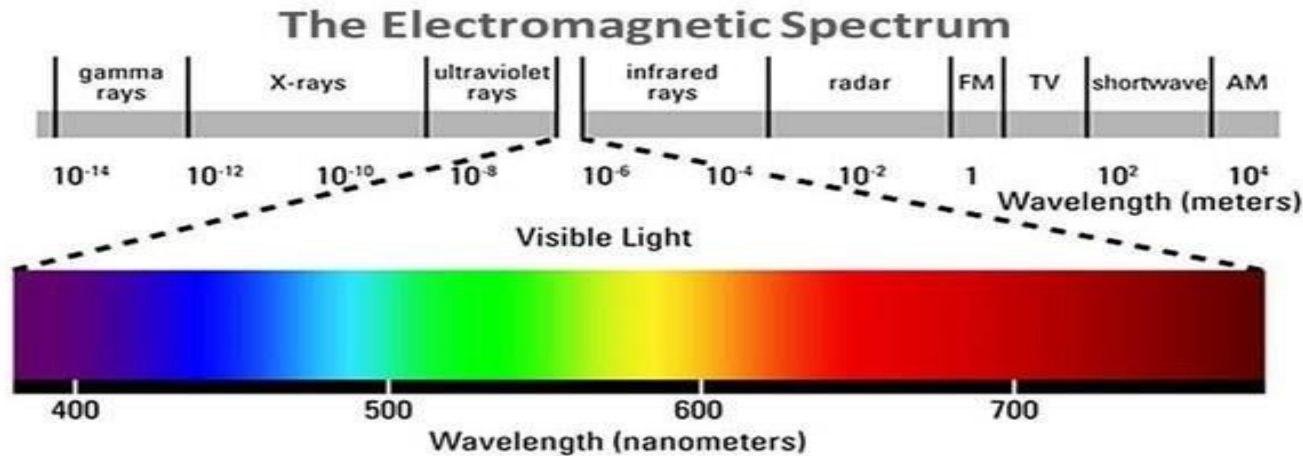

FIG.3.Electromagnetic spectrum.
- The *spectrum* is formed by electromagnetic waves and the wavelength is varies. See figure 3.